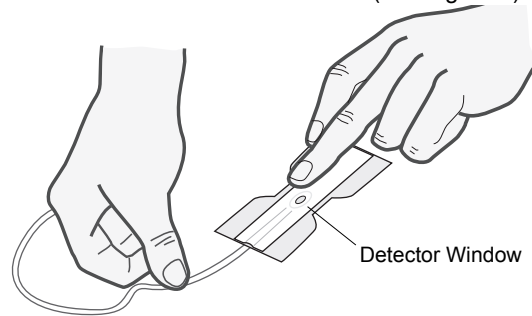

Figure 7
3. Orient the sensor so that the digit can be attached to the detector side of the sensor first (see Figure 7).